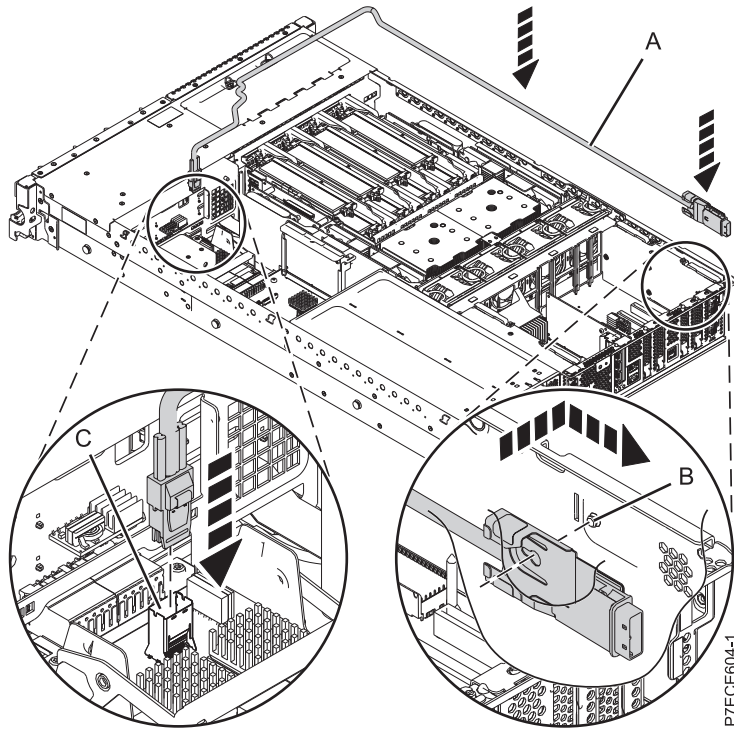

Figure 17. Replacing the SAS cable
- 1) Connect the mini-SAS connector of the SAS cable to the internal SAS connection port (C) on the storage interposer until it snaps in place. See Figure 17 on page 21.
- 2) Route the cable (A) in front of the memory riser cage, and along the channel in the side wall until the SAS port connector is near the opening on the rear of the chassis.
- 3) Align and guide the slot in the bracket of the SAS port connector (B) over the guide pin in the chassis, then slide the SAS port connector into the opening on the rear of the chassis until the tab on the bracket snaps in place.